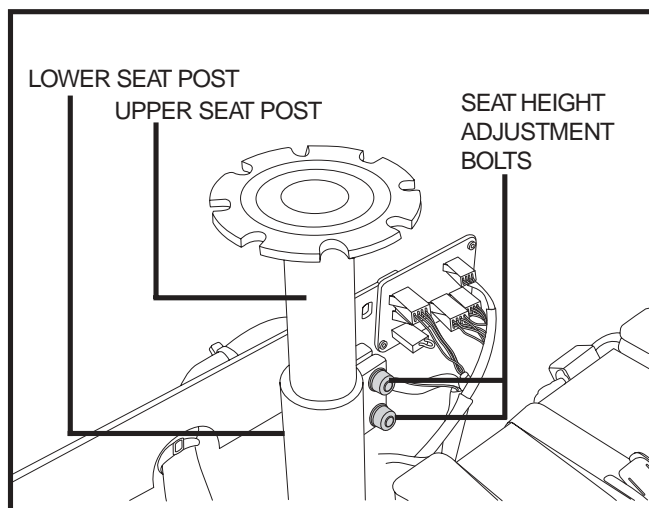

Figure 18. Seat Height Adjustment
5. Loosen the seat height adjustment bolts. See figure 18.